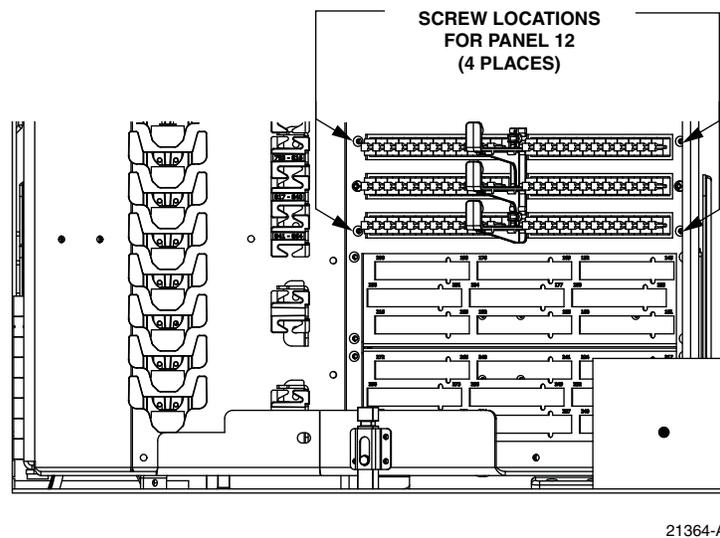

Figure 25. Secure Distribution Panel to Front Side of Swing Frame
14. Working from the front of the swing frame, use the four screws provided to secure the front of the distribution panel to the swing frame as shown in Figure 25.